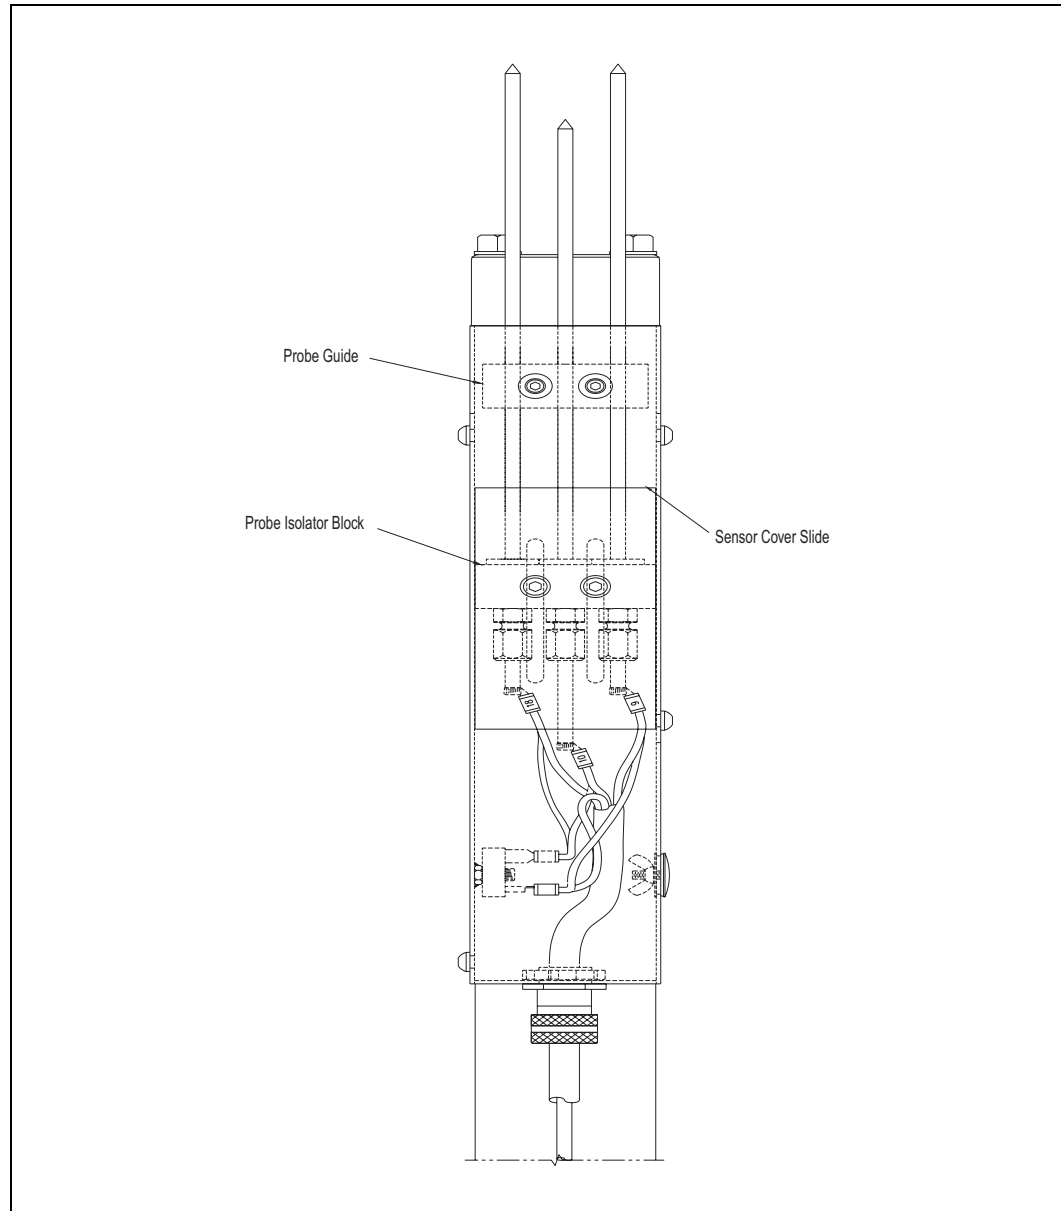

Figure 7-21: Sensor Probe Length Adjustment
3. Loosen the two screws in the Probe Isolator Block (Figure 7-21) so the Sensor Cover Slide can be moved. (The user might also need to loosen the two screws in the Probe Guide.)